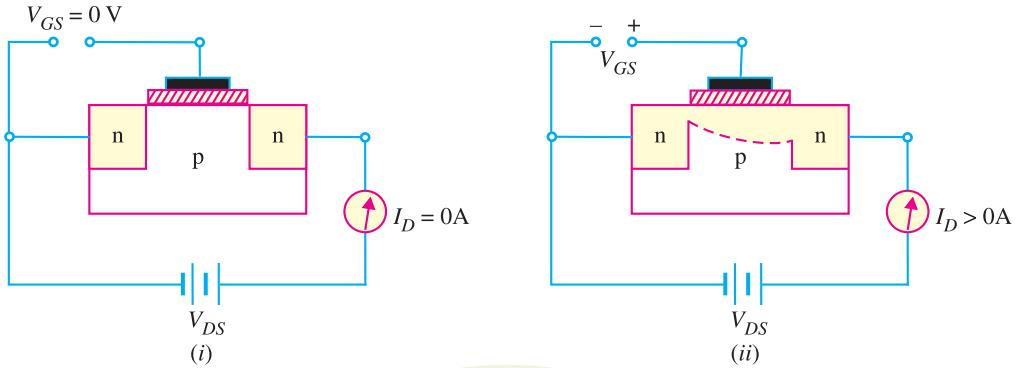

Fig. 19.55
Two things are worth noting about *E-MOSFET*. First, *E-MOSFET* operates *only* in the enhancement mode and has no depletion mode. Secondly, the *E-MOSFET* has no physical channel from source to drain because the substrate extends completely to the  $\text{SiO}_2$  layer [See Fig. 19.55 (i)]. It is only by the application of  $V_{GS}$  (gate-to-source voltage) of proper magnitude and polarity that the device starts conducting. The minimum value of  $V_{GS}$  of proper polarity that turns on the *E-MOSFET* is called *Threshold voltage* [ $V_{GS(th)}$ ]. The *n*-channel device requires positive  $V_{GS} (\geq V_{GS(th)})$  and the *p*-channel device requires negative  $V_{GS} (\geq V_{GS(th)})$ .
**Operation.** Fig. 19.55 (i) shows the circuit of *n*-channel *E-MOSFET*. The circuit action is as under :
(i) When  $V_{GS} = 0\text{V}$  [See Fig. 19.55(i)], there is no channel connecting the source and drain. The *p* substrate has only a few thermally produced free electrons (minority carriers) so that drain current is essentially zero. For this reason, *E-MOSFET* is normally *OFF* when  $V_{GS} = 0\text{ V}$ . Note that this behaviour of *E-MOSFET* is quite different from *JFET* or *D-MOSFET*.
(ii) When gate is made positive (i.e.  $V_{GS}$  is positive) as shown in Fig. 19.55 (ii), it attracts free electrons into the  $p$  region. The free electrons combine with the holes next to the  $\text{SiO}_2$  layer. If  $V_{GS}$  is positive enough, all the holes touching the  $\text{SiO}_2$  layer are filled and free electrons begin to flow from the source to drain. The effect is the same as creating a thin layer of  $n$ -type material (i.e. inducing a thin  $n$ -channel) adjacent to the  $\text{SiO}_2$  layer. Thus the  $E$ -MOSFET is turned *ON* and drain current  $I_D$  starts flowing from the source to the drain.